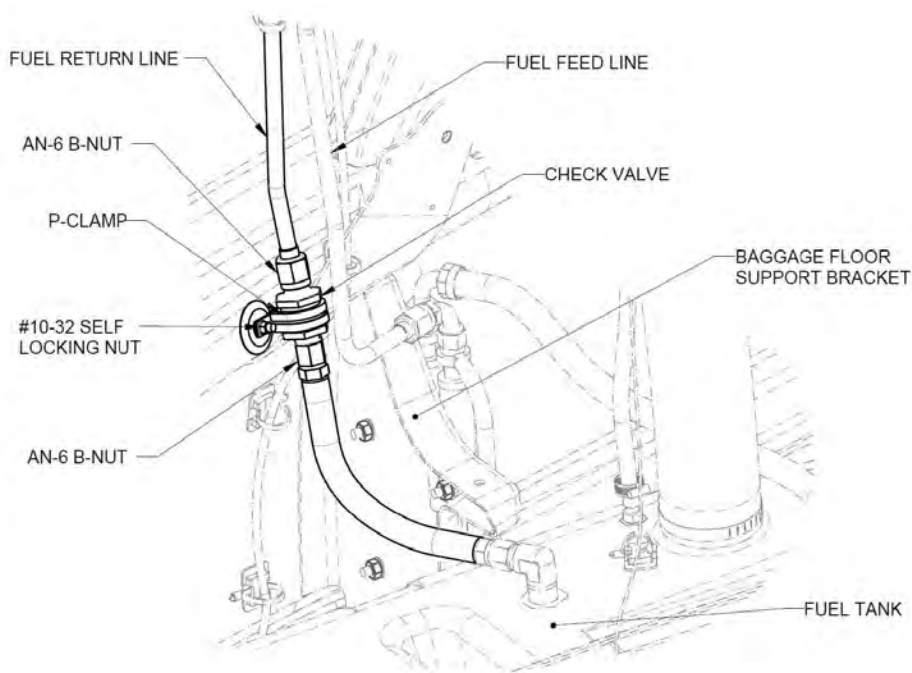

FIGURE 11-27
6. Remove the #10-32 Self-Locking Nut from the P-Clamp. (See Figure 11-27.)
5. Secure the P-Clamp with a #10-32 Self-Locking Nut. (See Figure 11-27.) Torque to 20 in-lbs.